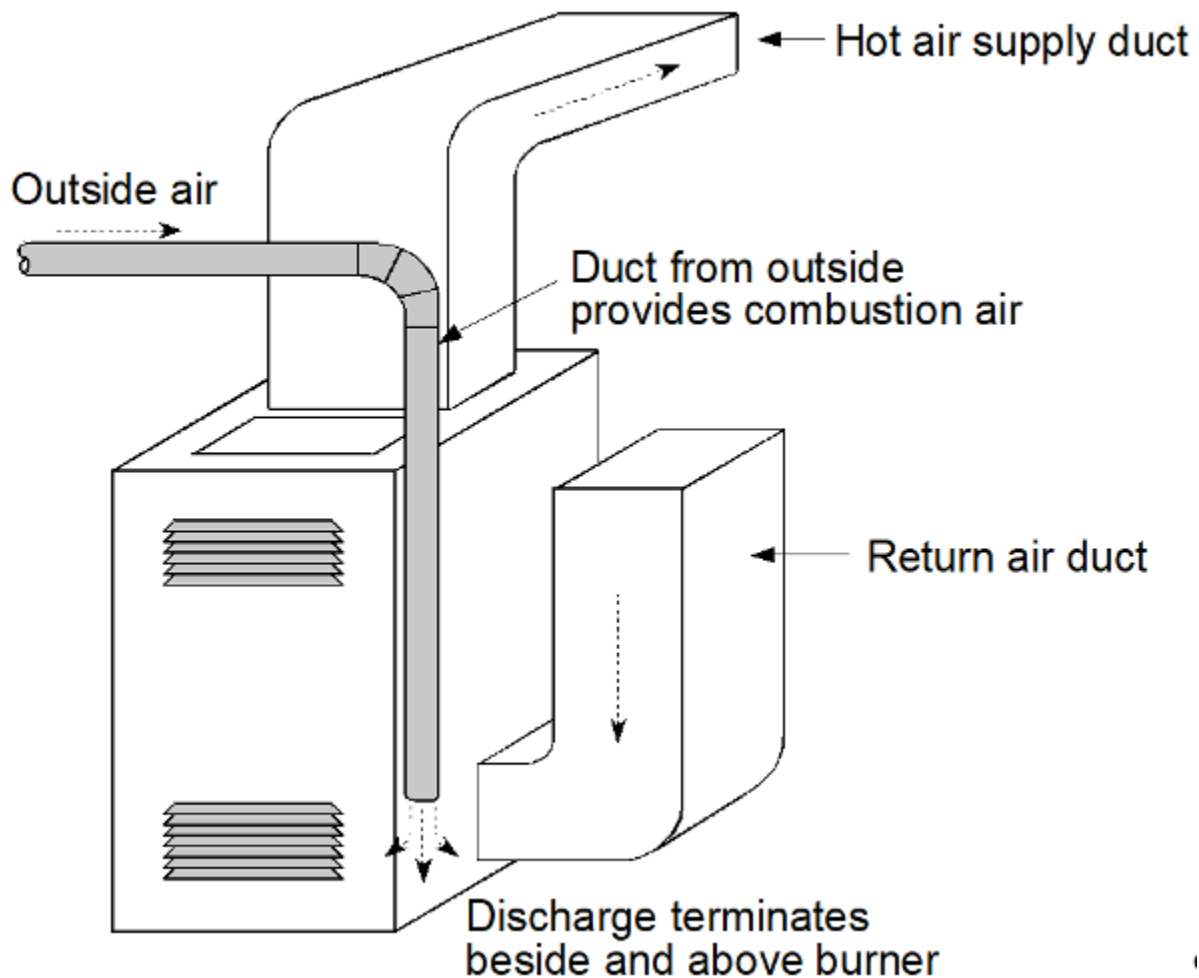

Figure 5. Ducted gas appliance air supply
If adequate outside air is not supplied to the room it will create a negative pressure in the room which will affect the safe operation of the appliances. Depressurization in a building with spillage-susceptible appliances must be limited to  $-0.02$  inch w.c. ( $-5$  Pa). The outside air is normally brought close to the gas appliance burners via a duct (Figure 5), but a hole in the wall may be used in some instances.
- Figure 5. “Ducted gas appliance air supply” – The source for this image is unknown. It is being used for non-commercial, educational purposes. To receive credit for this image, please reach out to the publisher.